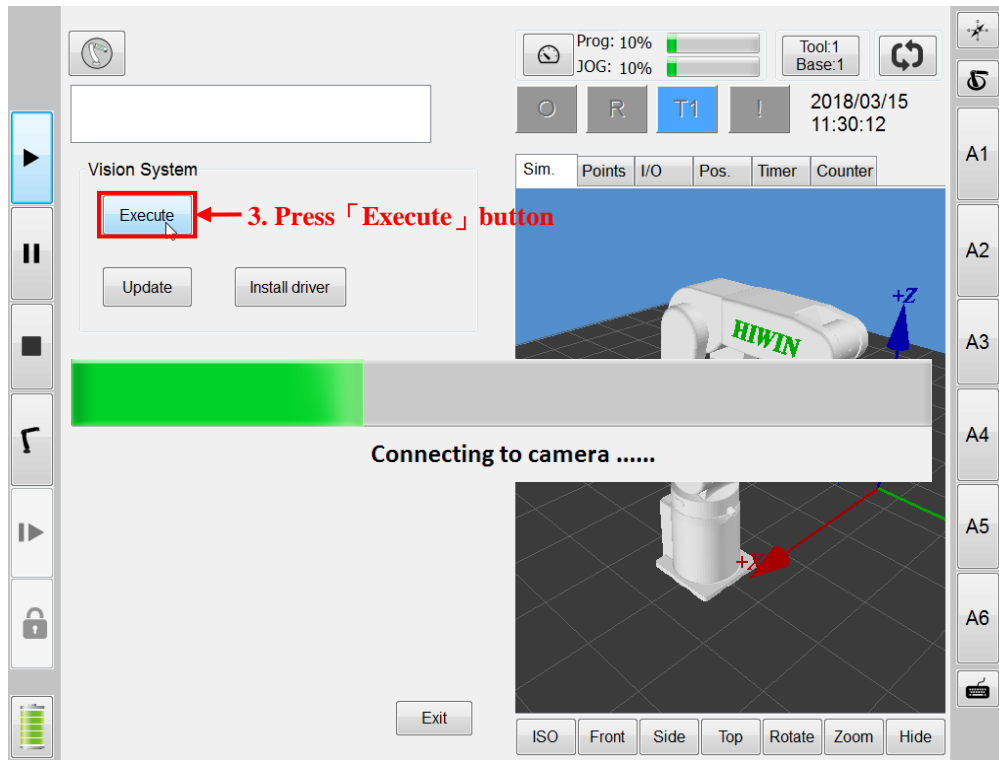

Figure 5-2 Waiting for vision system to be connected
2. As shown in Figure 5-2, press the "Execute" button. At this time, if the startup is successful, the message "Execute Successfully" will appear. After closing the message window, wait for the vision system to connect and open the setting interface.